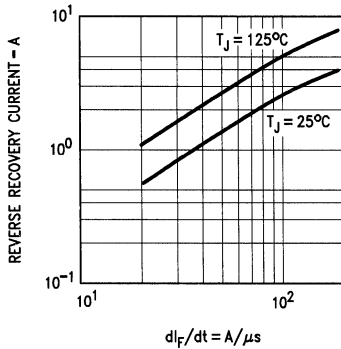

FIGURE 10. Reverse Recovery Current for the FRM/FRP1620 Series Rectifiers
*Figures 10–13* plot  $Q_{R(REC)}$ ,  $I_{R(REC)}$ ,  $t_{rr}$  and S versus  $dI_F/dt$  for the FRP1600 series of rectifiers and typical use conditions of  $I_F = 16\text{A}$  and  $V_R = 200\text{V}$  and for two different junction temperatures of  $25^\circ\text{C}$  and  $125^\circ\text{C}$ . Theory not only predicts, but it has also been experimentally verified, that these parameters are relatively independent of  $I_F$  so only one value of the latter suffices. Any three of the four *Figures 10–13* completely specifies the reverse recovery behavior of the rectifier. Since S and  $T_{rr}$  vary the least over the plotting  $dI_F/dt$  range, it is convenient to formulate reverse recovery energy loss P in microwatts in terms of the circuit parameters  $V_R$  and  $dI_F/dt$ :